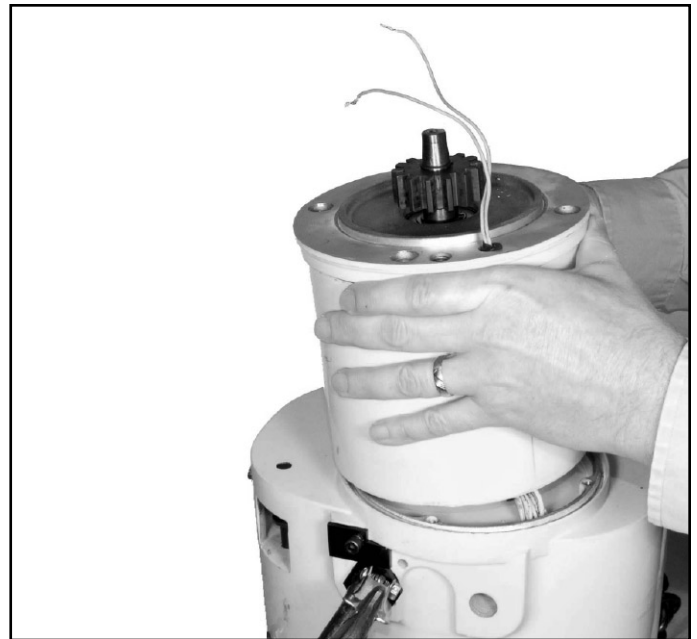

Figure 7-9. Removing Motor Assembly
(1) Place hoist frame on wood blocks to protect intergral gear on motor shaft. Loosen four motor mounting bolts and lift motor assembly from frame (fig. 7-9). Guide motor leads through wire passage to avoid damage.